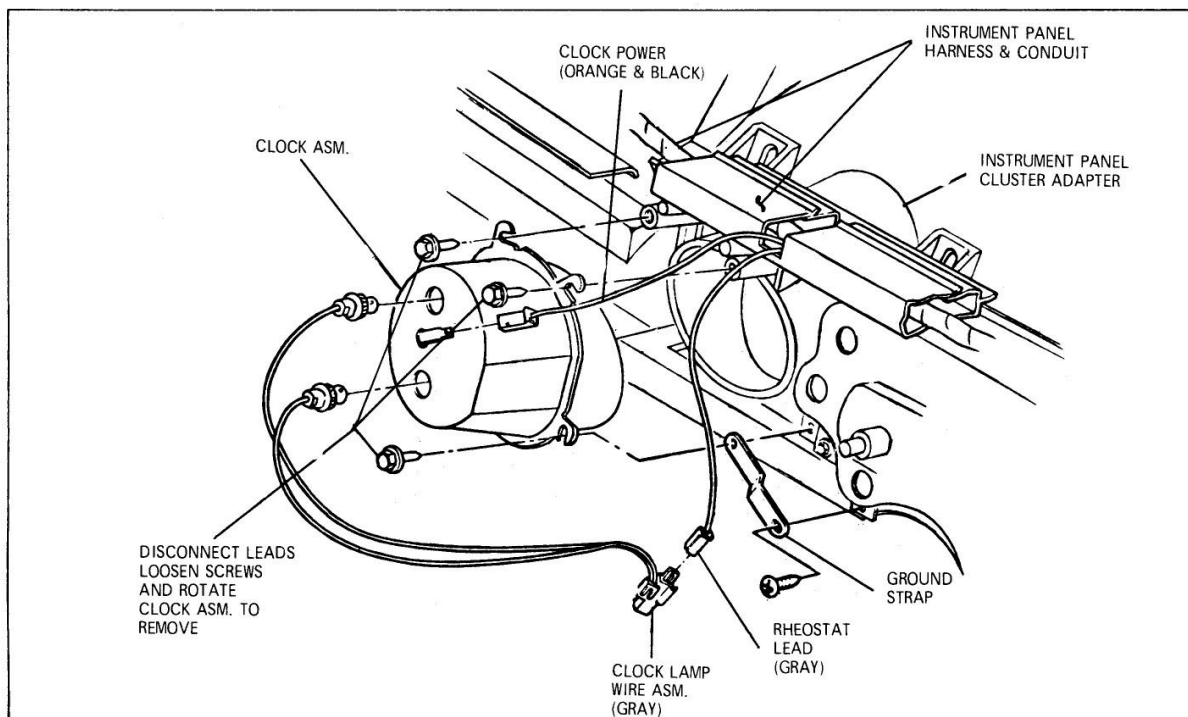

Fig. 15-18 Tempest Clock Installation
5. Loosen clock retaining screws (3), rotate clock assembly in a clockwise direction (as viewed from passenger side of dash) and remove (Fig. 15-18).